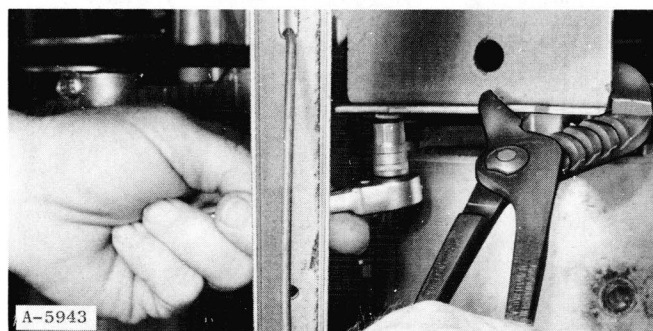

Figure 99
4. Hold the motor in place and tighten one of the front mounting screws to lock the motor in place. Figure 99.